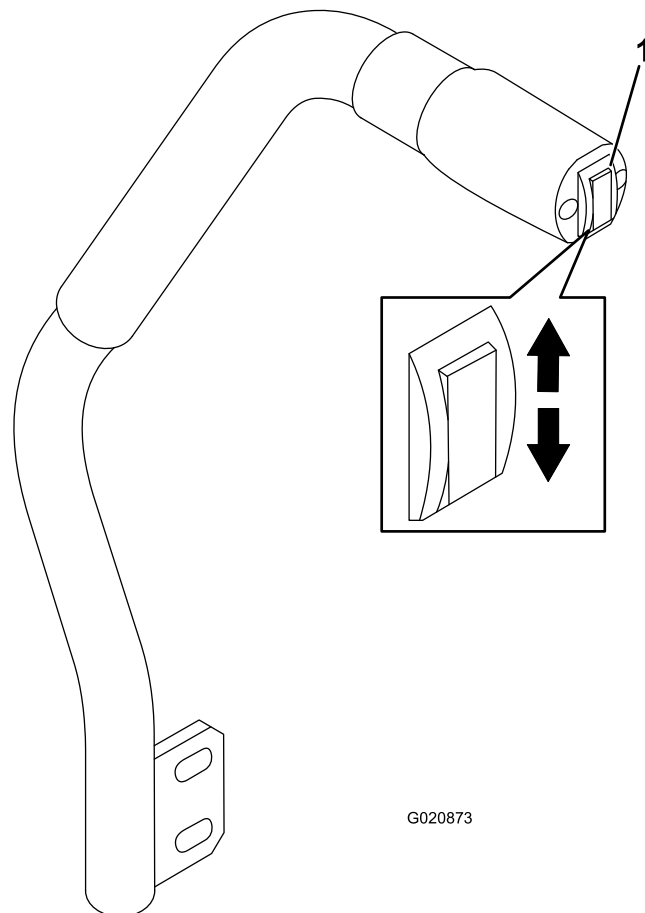

Figure 24
The deck-lift switch raises and lowers the mower deck (Figure 24). The engine must be running for you to use this lever.
- To lower the mower deck, push the deck-lift switch down (Figure 24).
- To raise the mower deck, push the deck-lift switch up (Figure 24).
1. With the engine running, push the deck-lift switch up until the mower deck is fully raised and **release the switch immediately** (Figure 24).